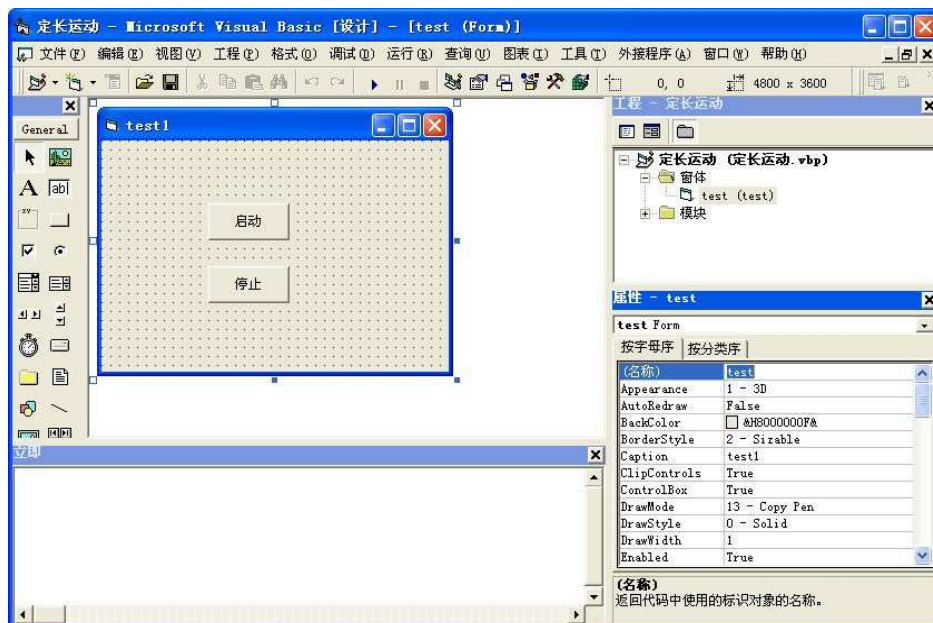

Fig. 1.6 Modify dialogue box
- 2) Open Visual Basic 6.0, create a “Label EXE” project, add “Start” and “Stop” button on the dialogue box, and modify them into “CB_Start” and “CB_Stop” respectively, as shown in Fig. 1.6.